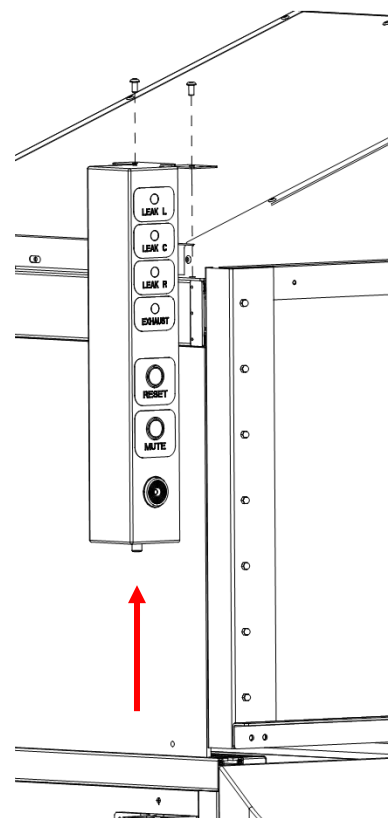

Figure 3: Safety Controller
2. Remove the 2 bolts from the top of the workstation, set the controller in place, and refasten the bolts shown in Figure 3: Safety Controller.